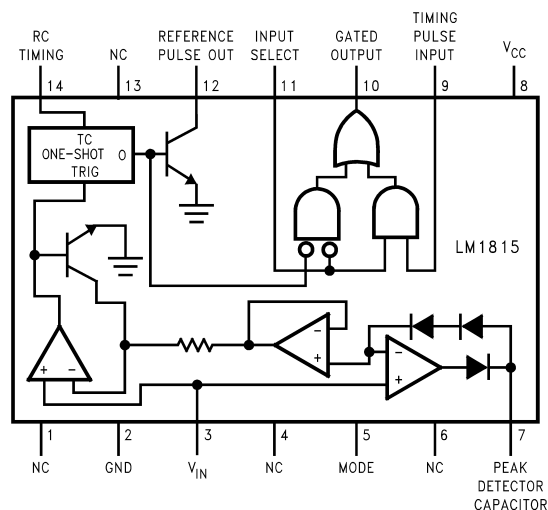

Figure 1. Top View
(2) Tested per Figure 1, V_{SIGNAL} is a Sine Wave; F_{SIGNAL} is 1000Hz.
In the application example shown in figure 1 (Rext = 18kΩ) the recommended maximum input signal voltage is ±54V (i.e. 108Vp-p).